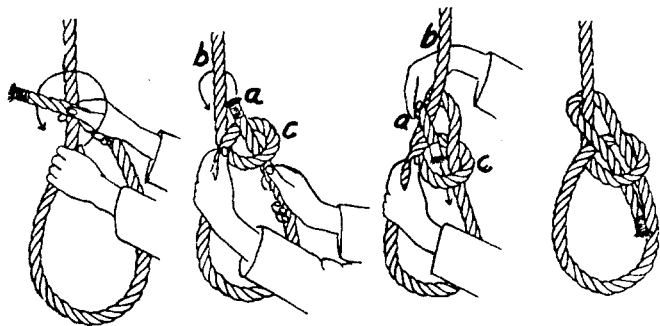
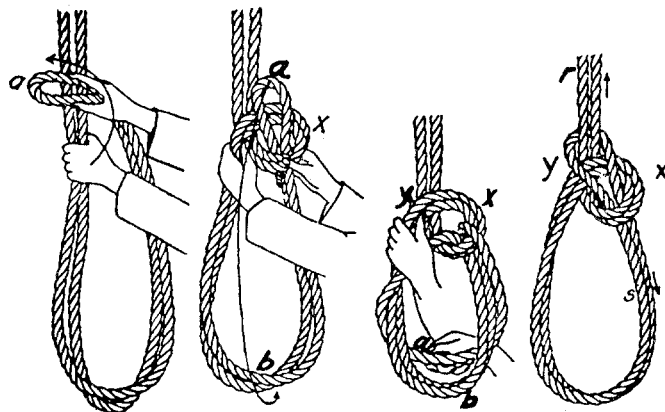

Figure 16. Overhand bowline knot
Figure 18. Bowline on the bight
(3) **BOWLINE - OVERHAND METHOD.** With the right hand on the end of the rope and the left on the right in the position as shown in Figure 16, left, make a loop by bringing the left hand around the end of the rope as indicated by the direction of the arrow. Now, with the left hand hold the loop in place. Grasping the end of the rope a with the right hand, bring it around beneath the standing part b and back through the loop c. This is the quickest and easiest method of making the bowline knot.
Bowline on the Bight. This knot is made in the middle of a long rope, or at the end of a rope when it has been doubled. The steps in the beginning are the same as those used in making the bowline (see description of bowline, overhand method, Figure 16) except that a double rope is used. Figure 18, left, shows the first step. A loop is then made about the end a with the left hand. The end a should now be pulled through the loop x far enough so that it may be drawn downward as indicated by the arrow. The loop a is now slipped over the large loose loop b, and then carefully moved back until it is in position of a in Figure 18, right. In tying the knot, care should be taken to prevent the half hitch or loop x from losing its form. This can be done by holding the ropes together where they cross at y. To tighten the knot, pull carefully on the ropes at r and s in the direction of the arrows. The bowline on the bight, while not as important as many other knots, is especially useful in throwing horses and cattle. It is safe because it will not slip or draw tight and is easily untied. Its use is further described under "tackles for throwing horses and cattle."